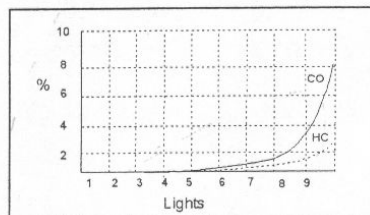

Figure 1
Refer to the graph in Figure 1 to calculate the amount of carbon monoxide (CO) and hydrocarbon (HC) emissions as related to the air/fuel ratio. As indicated by the chart, leaning the air/fuel mixture reduces CO and HC emissions.
Solution: This is not a problem, but rather a condition. A reading in between the defined increments used to scale the meter will show as a flickering light. It simply means the mixture is not strong enough to fully illuminate the next light. The voltage output of the oxygen sensor is not linear (see Figure 1) so the reading may occasionally bounce back and forth between lights 3 and 7. This condition is considered normal and does not indicate a radical change in the air/fuel ratio. Note that the sensor is very accurate near 14.7:1.0 and less accurate as the air/fuel ratio goes either rich or lean. Caution: A lean fuel condition can melt pistons and/or burn valves. An under-sized or worn fuel pump, fuel lines that are too small or an inadequate fuel pump pickup tube can also cause a lean fuel condition when the engine is under full power. Make sure the fuel delivery system exceeds the engine's needs.